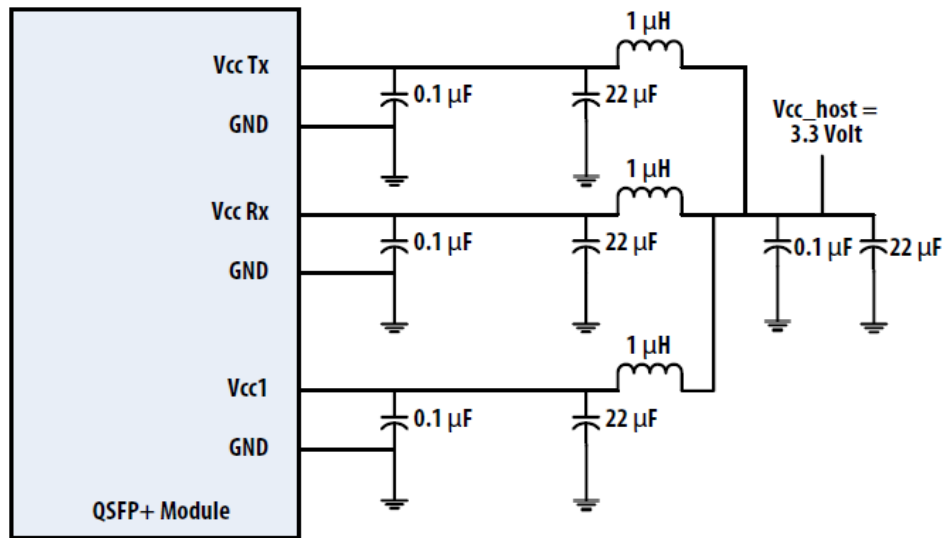

Figure 3. Recommended Power Supply Filter
2. VccRx, Vcc1 and VccTx are the receiver and transmitter power suppliers and shall be applied concurrently. Recommended host board power supply filtering is shown in Figure 3 below. Vcc Rx, Vcc1 and VccTx may be internally connected within the QSFP+ transceiver module in any combination. The connector pins are each rated for a maximum current of 500mA.